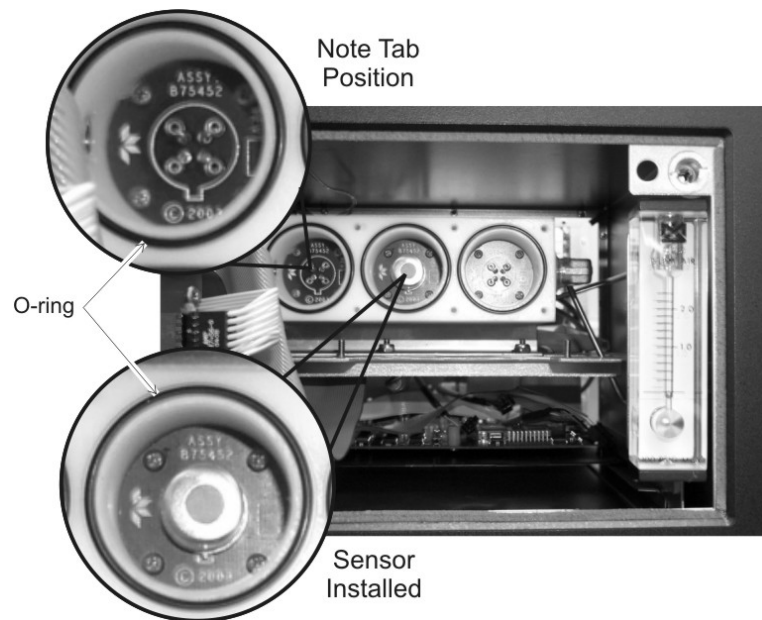

Figure 5-1: Sensor Block with Middle Sensor Installed
To remove an existing cell (refer to Figure 5-1):
3. Remove the eight screws that hold the cover of the sensor block. As you remove the cover make sure the O-rings stay in place. If they drop, place them back carefully in the groove found on the cell block, not on the cover. See Figure 5.1.